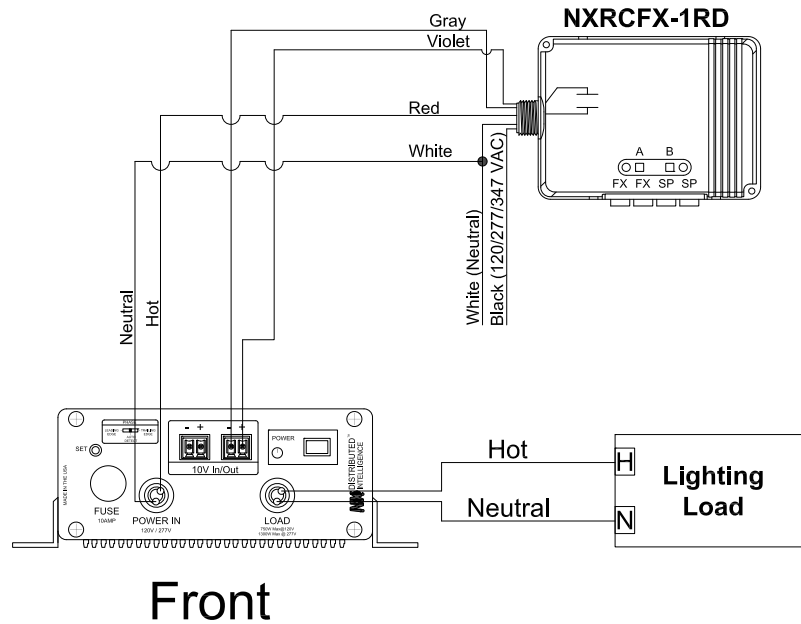

FIGURE 1: Wiring Diagram to Room Controller
3. Following the applicable wiring diagram provided in Figure 1, first connect your desired lighting load to be controlled to the side of the device labeled LOAD. Ensure to connect appropriate wires or Line (Black), Neutral (White), and Ground (Green) on the provided flexible conduit.